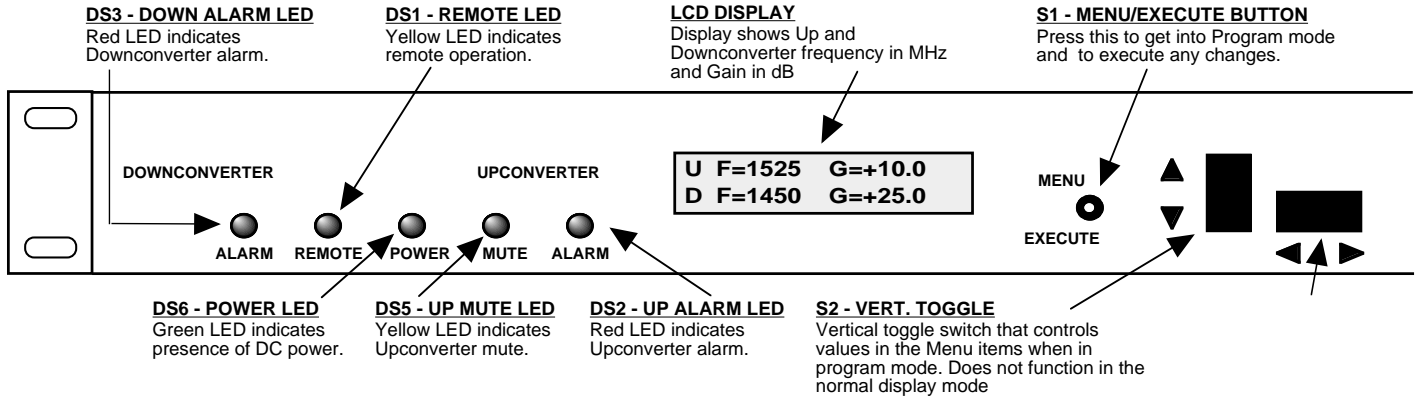

Figure 2.2 Model 2017-03 Front Panel Controls and Indicators
Figure 2.2 shows the input and output connectors on the rear panel.
- 8.) Be sure DS6 (green, DC Power) is on and DS2 (red, Alarm) is off (Figure 2.2).
- 7.) Be sure DS6 (green, DC Power) is on and DS2 (red, Alarm) is off (Figure 2.2).
2.5.1 Functions - This section describes operation of the front panel controls. There are three operator switches, the LCD display and alarm indicator LEDs. All functions for the equipment are controlled by these components. The functions are (See Figure 2.2):
Alarm indications appear on the LEDs (see figure 2.2).